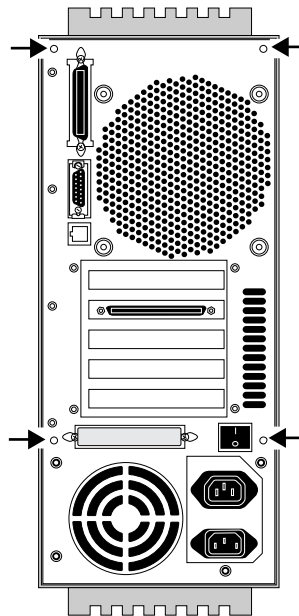

Figure 5-2 Fiery XJ BP100 back panel screw locations
2. *Remove the four screws on the back of the Fiery XJ BP100 chassis (see Figure 5-2 on page 5-4).*
4. **Replace the four screws at the back of the Fiery XJ BP100 chassis (see Figure 5-2 on page 5-4).**